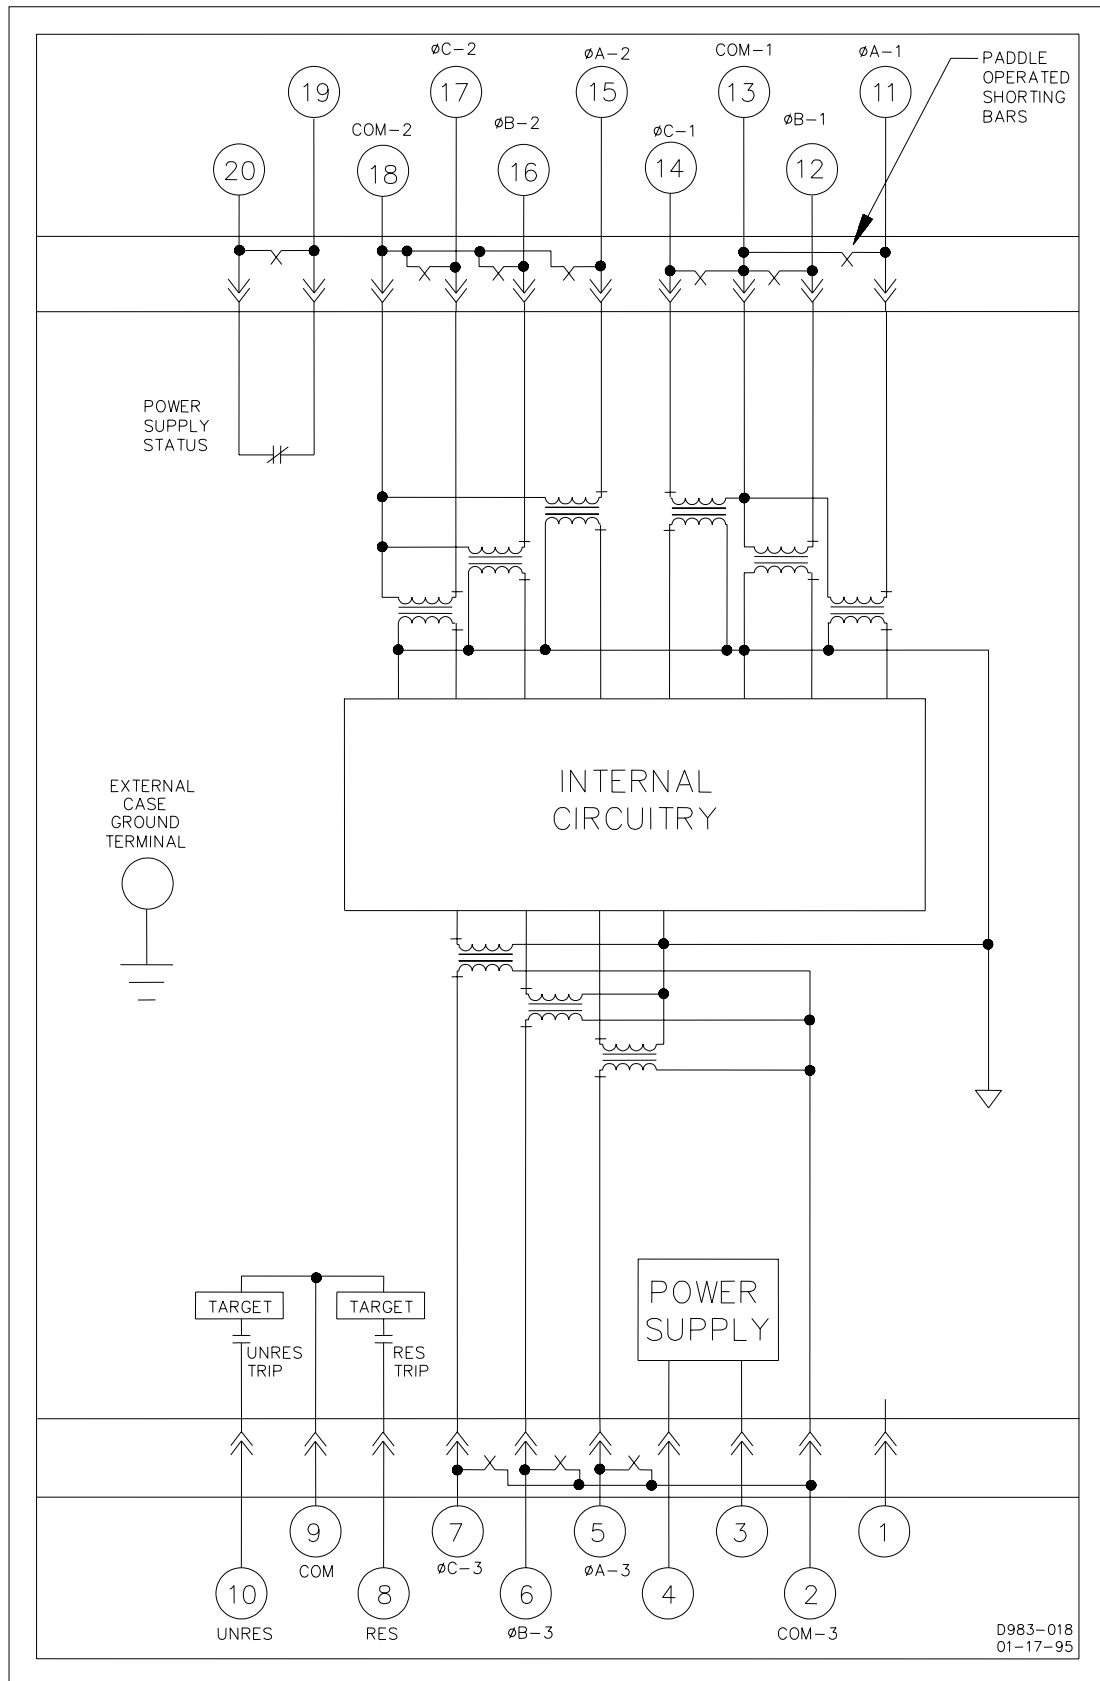

Figure 6-2. Typical Internal Connections, Three-Phase, Sensing Input Type F, Output Option E
- Sensing input type F relays have the normally closed power supply status (PSS) output at terminals 19 and 20 and have shorting bars across the PSS terminals (refer to Figure 6-2).